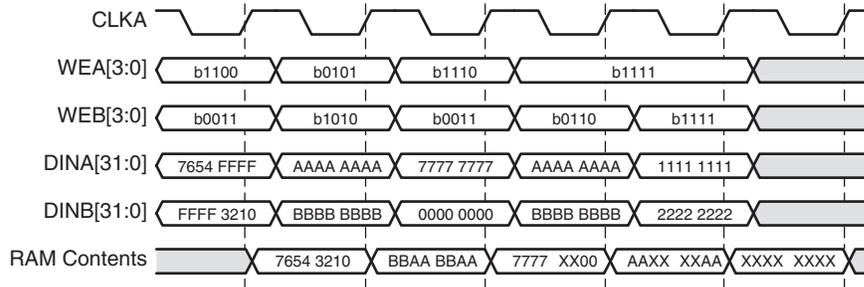

Figure 15: Write-write Collision Example
- **Using Byte-Writes.** When using byte-writes, memory contents are not corrupted when separate bytes are written in the same data word. RAM contents are corrupted only when both ports attempt to write the same byte. Figure 15 illustrates this case. Assume ADDRA = ADDRB = 0.